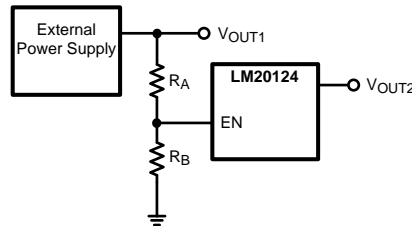

Figure 7. Sequencing LM20124 with Precision Enable
The precision enable (EN) and power good (PGOOD) pins of the LM20124 can be used to address many sequencing requirements. The turn-on of the LM20124 can be controlled with the precision enable pin by using two external resistors as shown in Figure 7.